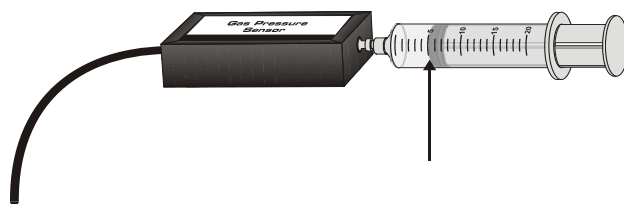

Figure 3
3. Before connecting the syringe, move the piston in the syringe so that the front edge of the inside black ring is positioned at the 5.0-mL line on the syringe as shown in Figure 3. This captures a fixed amount of air in the syringe. Then carefully screw on the pressure sensor to the syringe as shown in the figure (Do not over tighten). You are now ready to collect pressure and volume data.